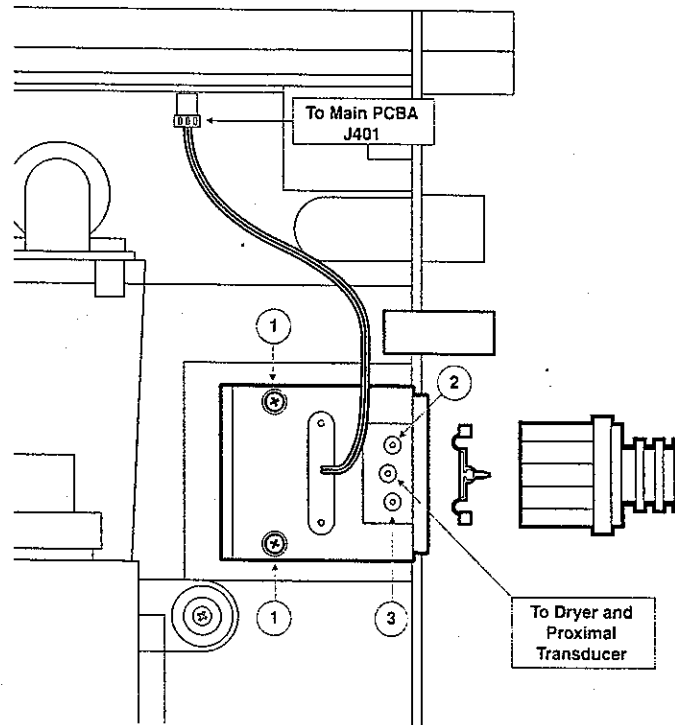

Figure 5-13. Exhalation Valve
Referring to Figure 5-13, the two outside tubes should be labeled as 2 and 3 with plastic bands. If they are not, label these tubes with masking tape or make a drawing for correct assembly.
- 3 Remove the three (3) pneumatic tubes to the Exhalation Valve, labeling or noting their position for proper assembly .
- 5 Remove the two (2) Phillips screws (Figure 5-13, ref. 1) from the top of the Exhalation Valve.